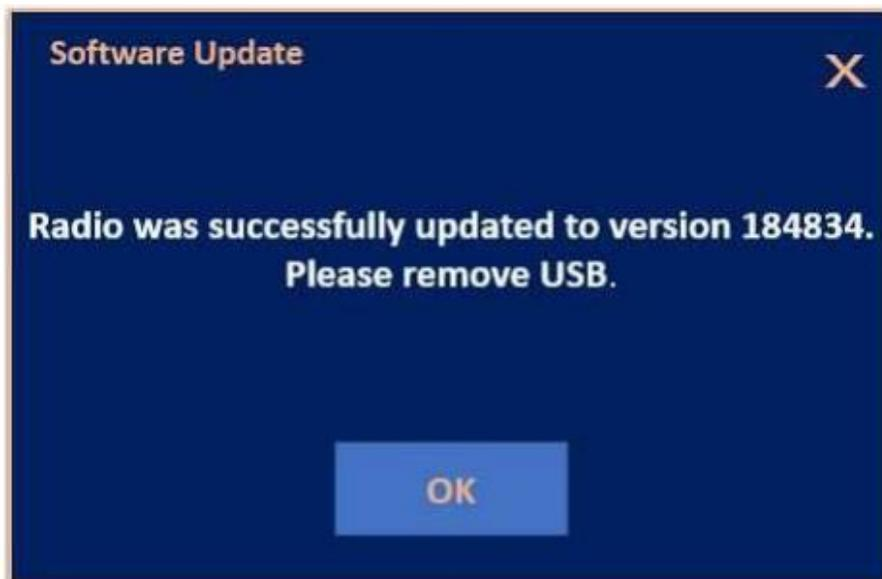

Figure 9 – Update Successful Screen
18. Wait for the "Radio was successfully updated" screen (Figure 9).